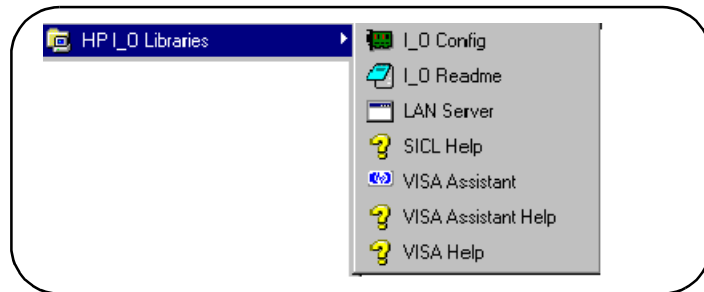
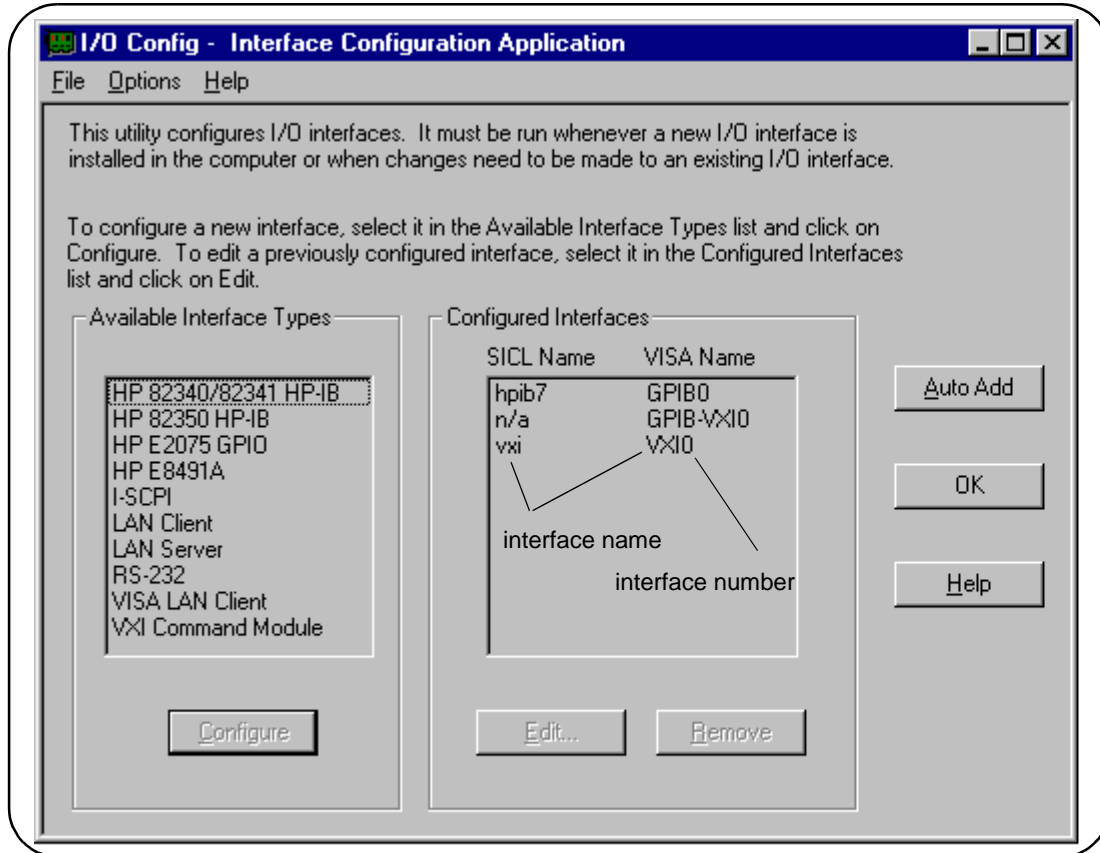

Figure 2-10. The HP I_O Libraries Program Group.
Figure 2-11. The HP I/O Libraries I/O Config Utility.
- A. Connect the IEEE 1394 interface cable between the host adapter (PC) and the E8491A interconnect if you have not already done so. Turn on the VXI mainframe.
- B. From the HP I_O Libraries program group created when the libraries were installed, click on 'I_O Config' (Figure 2-10).
This brings up a configuration window similar to that shown in Figure 2-11.
When it is necessary to edit your configuration, click 'I_O Config' in the HP I_O Libraries program group (Figure 2-10). To edit the HP E8491A, click (highlight) the configured interface (vxi VXI0) in the utility (Figure 2-11). This activates the 'Edit' button on the bottom of the window.
Another way to determine if your system is properly configured is to view the output of the resource manager. The easiest way to view the output is using the I_O Libraries' 'I_O Config' utility. Select and start the utility as shown in Figures 2-10 through 2-12. The output is viewed as shown in Figure 2-16.